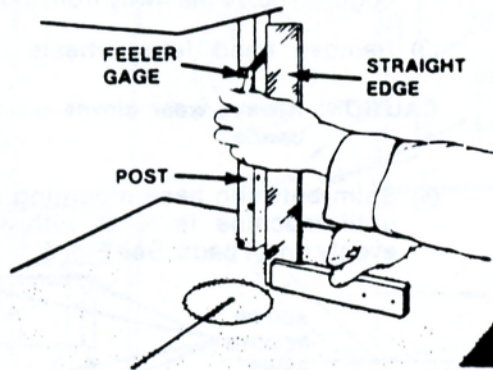

FIG. 7. SQUARING TABLE TO POST.
- (7) Square table to post side by loosening tilt lock mechanism and making necessary adjustment. If necessary, position tilt angle pointer at "0" on scale; then tighten tilt lock. See Fig. 7.